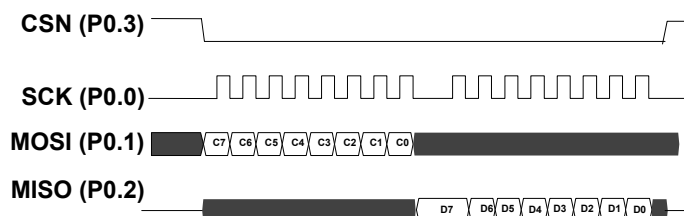
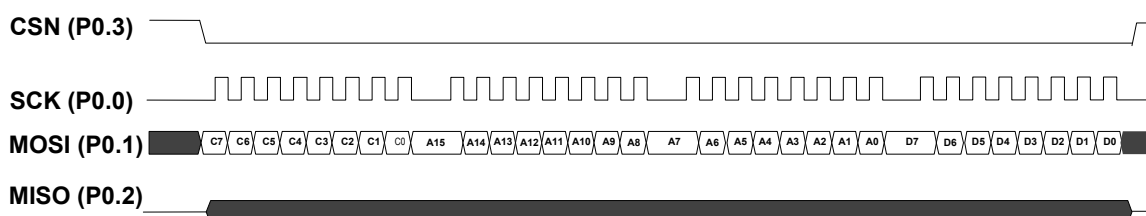

Figure 63. SPI read command without address
Figure 66. SPI OTP write operation, shown with 1 databyte
An SPI command always starts with the external master sending a command byte to the OTP slave, followed by a variable number of address and data bytes. The number of address and data bytes is specific to each command, as shown in Table 119. on page 141. In Figure 63. on page 141 to Figure 66. on page 142, C_n are the SPI command bits. A_n are the address bits and D_n are the data bits (note: MSBit in each byte first). After \overline{CSN} is deactivated, an OTP write command requires the chip to do the OTP programming, and this will take some time to complete. Therefore, it is advised to not issue a new command until the specified amount of time has elapsed. Alternatively, you can repeatedly issue $RDSR$ commands until the $FSR.RDYN$ bit reads back as 0.
The SPI command $RDSR$ reads out the content of the OTP status register FSR , and consists of one-command byte and one-data byte as shown in Figure 63. on page 141. By keeping the \overline{CSN} line active after the first data byte, FSR will be repeatedly re-read until \overline{CSN} is set inactive.
3. The `PROGRAM` command is sent on the `MOSI` line followed by the two-byte address (address of the first byte) and the data to be programmed/ written, as shown in Figure 66. on page 142.
The SPI command `RDFPCR` reads out the content of the OTP protect configuration register `FPCR`, and consists of one command byte and one data byte as shown in Figure 63. on page 141.
The sequences of command and data in an SPI command are found in Figure 64. on page 141 and Figure 66. on page 142. In these figures only 1 byte of data is shown. Typically for read and write data transfers, the block should be as long as possible (64 to 256 data bytes gives the best performance).